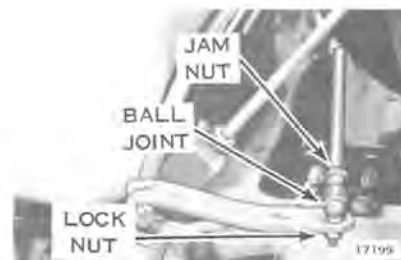

Figure 11-5
- b. If alignment is necessary, loosen the outer jam nuts, see Figure 11-5. Do not attempt to loosen these nuts without first holding the ball joint. Next remove lock nut from ball joint. Turn ball joint clockwise to toe skis out or counterclockwise to toe skis in. Tighten jam nuts when skis are parallel. Replace ball joint lock nut.